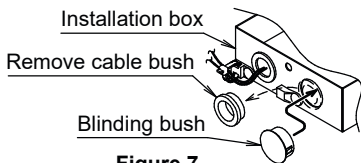

Figure 7
- In the case the adapter PCB does not connect to both low and high current wiring, remove the cable bush from the installation box and replace it by the blinding bush from the accessories. Refer to Figure 7.